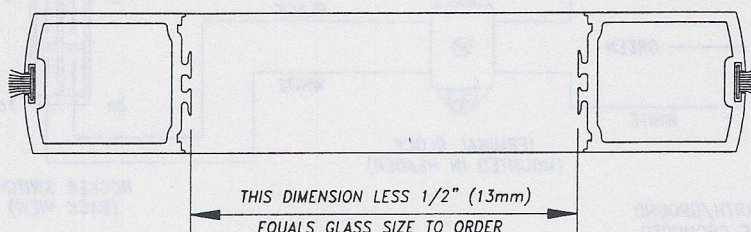

FIGURE 21: Glass Measurement
- C. If the installation is **not** a standard package, measure the width and height between the stile extrusions and **subtract** 1/2" (13mm) (Figure 21). This is the glass size to order.